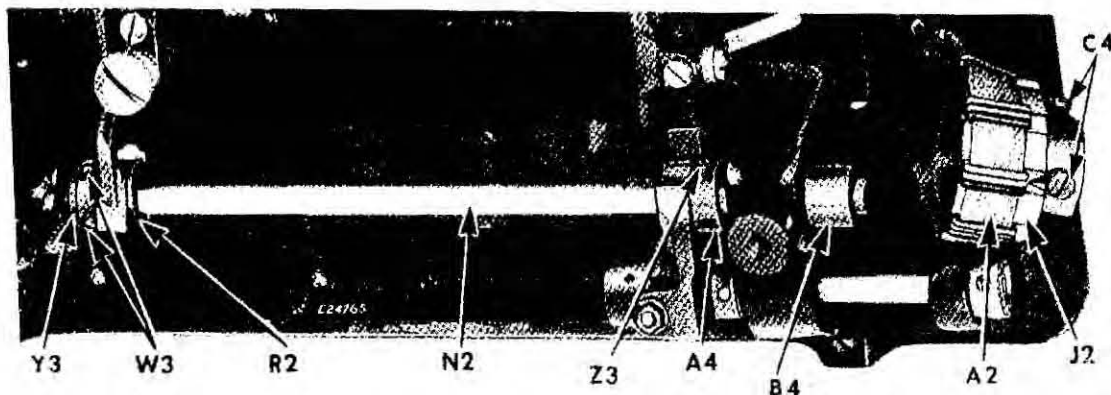
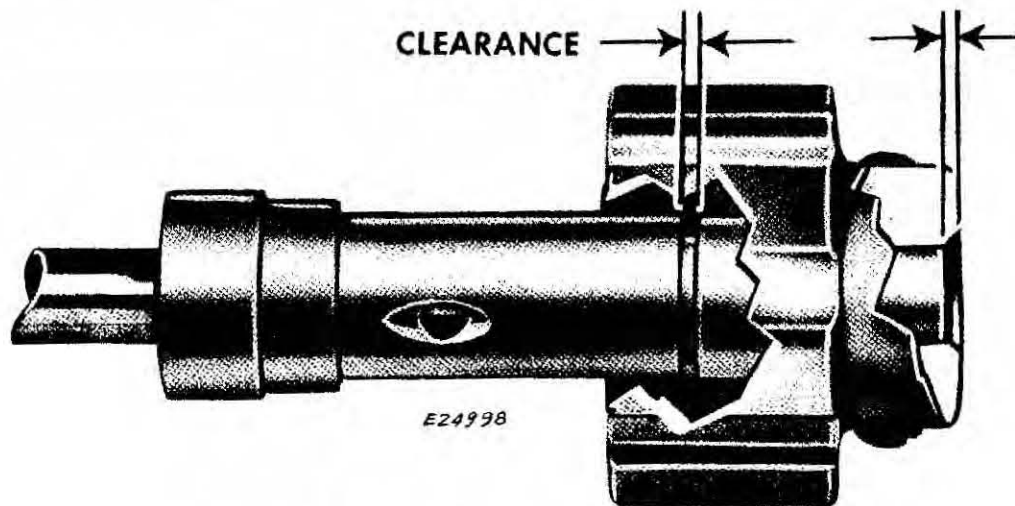

Fig. 52. Removing Sprocket and Hook Driving Shaft
Fig. 56. Lower Sprocket Clearance for Heat Expansion
- Sprocket set too close to rear bearing bushing. See **Fig. 56**.
Never take up end play by bringing feed advance eccentric **A4**, **Fig. 52** against rear leg bearing.
2. Loosen sprocket screws **C4, Fig. 52**.
3. Mount feed advance eccentric with collar **A4, Fig. 52**. Collar must be set close to fork without rubbing against jaw of fork to avoid binding of machine from heat expansion.
NOTE: To avoid binding at end of bushing **B4** and sprocket **J2**, due to heat expansion, see **Fig. 56**.
NOTE: The end of hook driving shaft, toward the lower sprocket containing belt **A2**, **Fig. 52**, must be flush with the inside edge of the countersinking of the lower belt sprocket shaft hole to allow for 1/16 to 3/32 inch clearance for heat expansion as shown in **Fig. 56**.